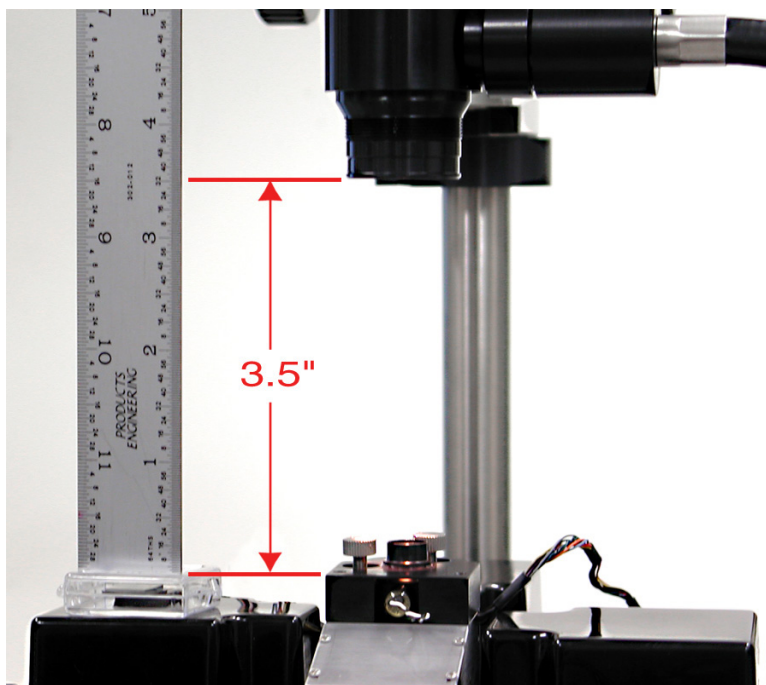

Figure 6 (Vertical spacing of the camera assembly above the microscope)
The video system can be used without the bottom 1.5x lens to achieve a greater field of view at lower magnification. See **Figure 6** on page 6 for details on special positioning requirements.
9. The end of the video camera should be positioned relative to the scanner image lens as shown in **Figure 6** below.